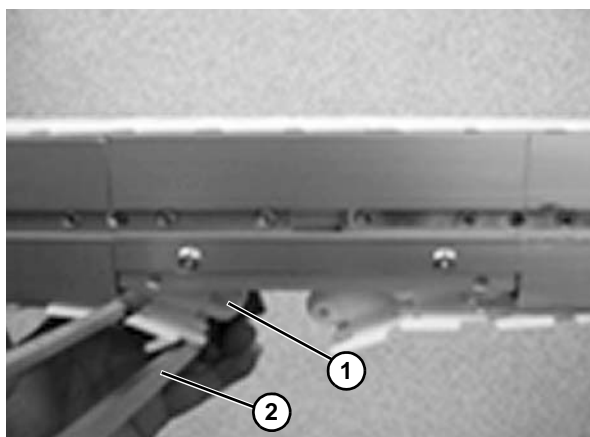

Figure 58
3. Clamp the chain (**Figure 58, item 1**) to the beam profile. Use the FlexMove chain tool (**Figure 58, item 2**) to remove a steel pin from the chain, so that two links are separated.